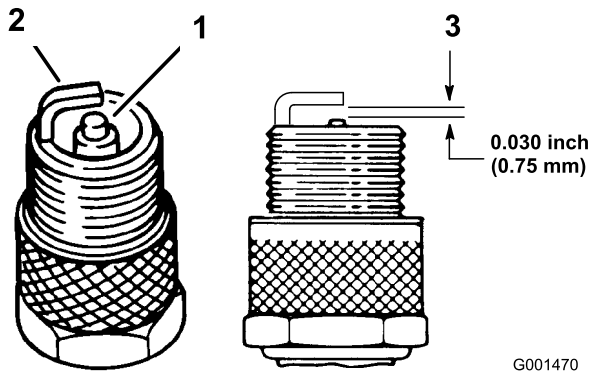

Figure 33
1. Look at the center of the spark plugs (Figure 33). If you see light brown or gray on the insulator, the engine is operating properly. A black coating on the insulator usually means that the air cleaner is dirty.
3. Check the gap between the center and side electrodes (Figure 33). Bend the side electrode (Figure 33) if the gap is not correct.
3. Connect the wires to the spark plugs (Figure 33).